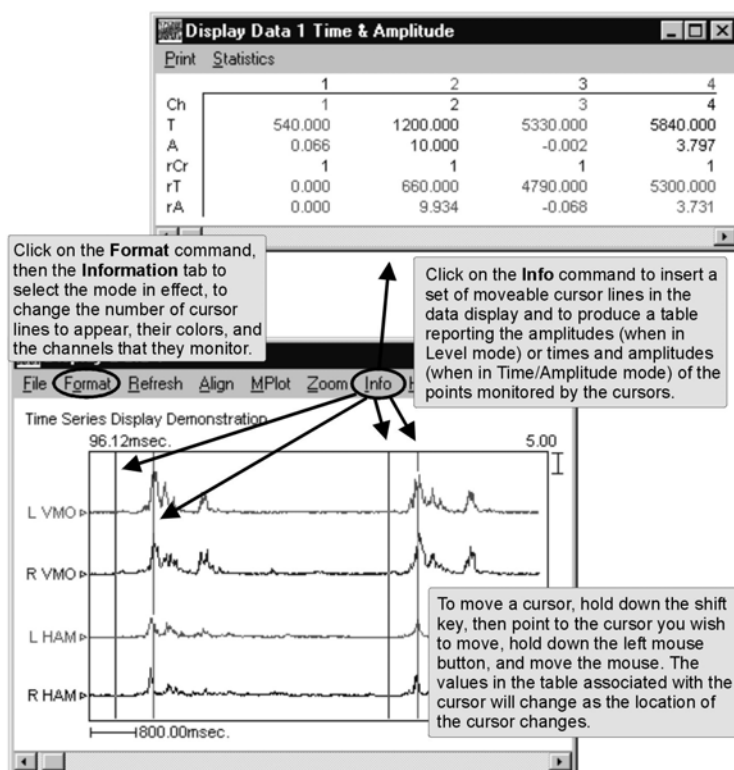

Figure J-9. An example of a time series display and companion table window when the Time & Amplitude option of the Info command is in effect.
The general operation of the Info feature is illustrated in Figure J-9. Specifically, the illustration shows the Info feature within the Time & Amplitude mode, but the principles are the same in the Level mode as well.
To activate the Info feature, select the **Info** option from the display window's menu bar. Two things occur when the Info feature is in effect: (1) Up to four cursors appear in the time series display, and; (2) a companion window appears containing a table to report the values monitored by the cursors. Since the Time & Amplitude mode is in effect in the illustration presented in Figure J-9, the cursors appear as vertical lines, and the companion window reports both time and amplitude information. If the Level mode was in effect the cursors would appear as horizontal lines, and only amplitude information would be reported in the table in the companion window.